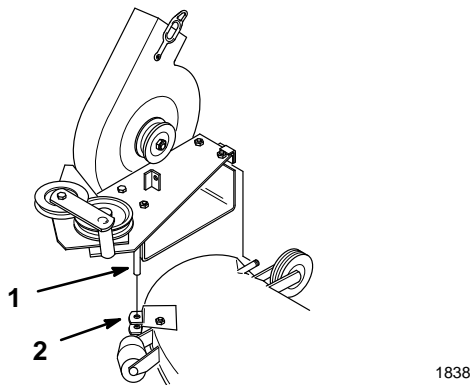

Figure 33
2. Remove the blower by lifting the pivot pin out of the pivot support (Fig. 33).